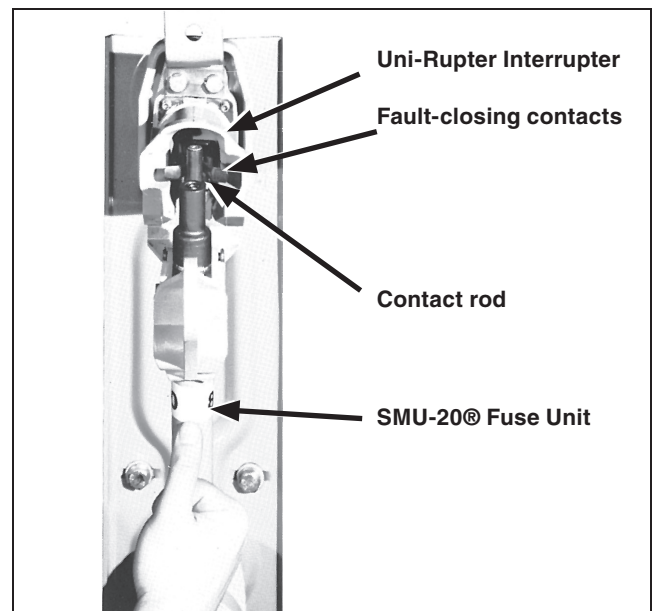

Figure 2. “On center” approach of contact rod to fault-closing contacts of the Uni-Rupter Interrupter.
- STEP 2.** Install an SMU-20 Fuse-Unit assembly (with end-fittings, including the silencer attached, as directed in S&C Instruction Sheet 252-550) in the hinge-and-lower contact assembly and slowly close the fuse-unit assembly into the Uni-Rupter Interrupter. Make sure the contact rod on the fuse-unit assembly makes an “on center” approach to the fault-closing contacts of the Uni-Rupter Interrupter. See Figure 2. If adjustment is necessary, slightly loosen the two bolts securing the hinge-and-lower-contact assembly to its insulator and, using the fuse-unit assembly as a lever, bring the hinge-and-lower contact assembly into proper alignment with the Uni-Rupter Interrupter. Recheck Dimension P (on both sides of the Uni-Rupter Interrupter) and adjust as required. Then, retighten both mounting bolts.